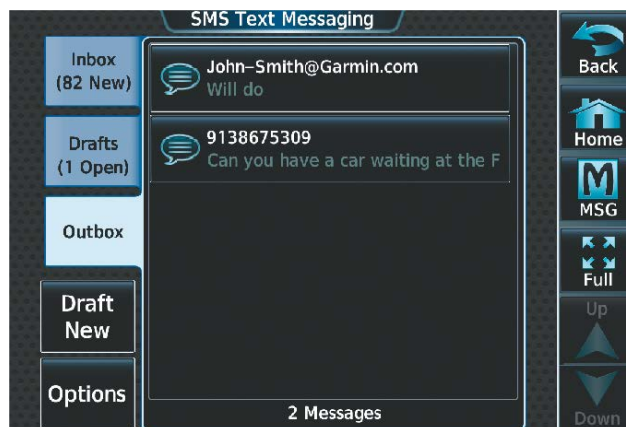

Figure 8-91 SMS Text Outbox
- 2) Touch the **Outbox** Tab. A list of sent or unsent messages is displayed as in Figure 8-91.